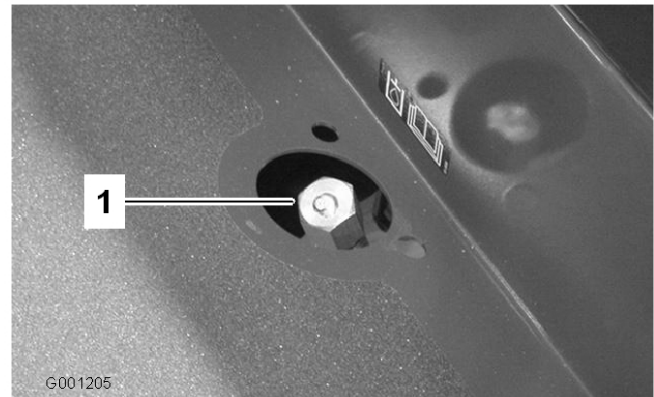

Figure 22
2. Remove dipstick cap (Figure 22) from filler neck and wipe it with a clean rag. Screw dipstick cap finger-tight onto filler neck; then remove it and check level of fluid. If level is not within 1/2 inch (13 mm) from the groove in the dipstick, add enough high quality hydraulic fluid to raise level to groove mark. Do not overfill.